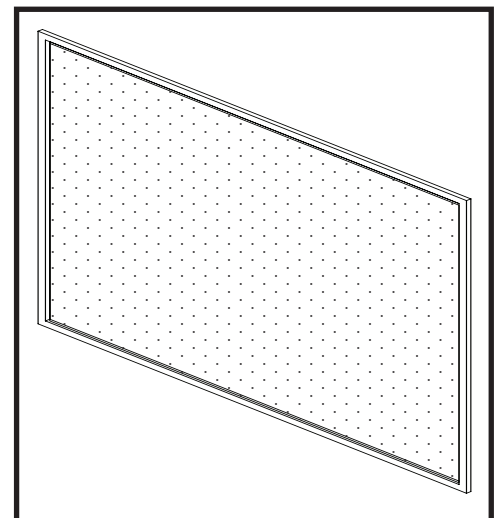

Figure 62: Safety barrier screen.
6. Attach the magnetic safety barrier screen (Figure 62) to the outer-most door frame.